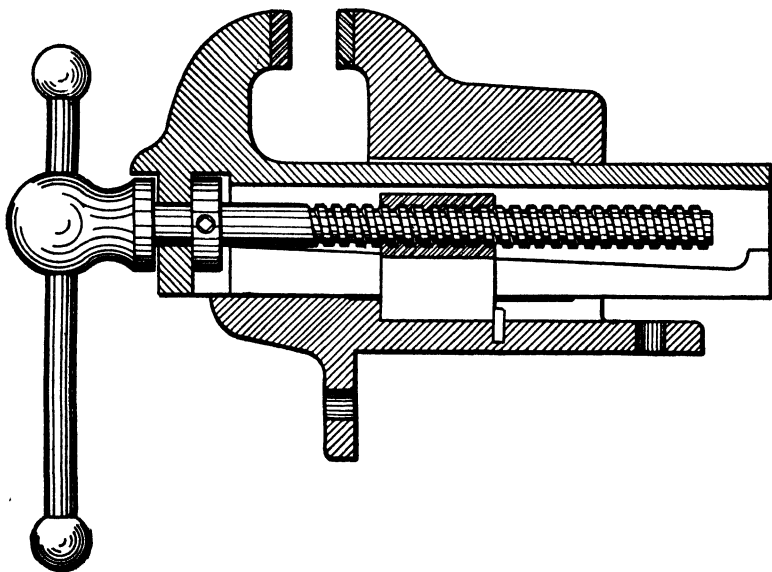

Fig. 2. Simple Bench Vise
**Work Vises.** In order that work may be held rigidly for the performance of hand operations, the machinist uses what is termed a vise. They are made in a great variety of forms and sizes, but all consist essentially of a fixed jaw, a movable jaw, a screw, a nut fastened to the fixed jaw, and a handle by which the screw is turned in the nut and the movable jaw brought into position. The sectional view, Fig. 2, shows these parts clearly and also a device,
The common method of fastening a vise to the bench is by means of the fixed base shown in Fig. 2, although a swivel base is really preferable. Vises of this kind often have swivel jaws as well, which enable them to hold tapered work securely. This swivel jaw is provided with a locking pin, which fixes the jaws in a parallel position. The height of the vise from the floor depends somewhat on the class of work to be performed, but a general rule is to have the top of the jaw about  $1\frac{1}{2}$  inches below the point of the elbow when standing erect beside the vise.